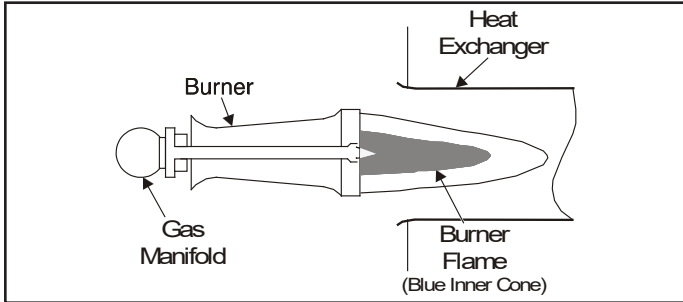

Figure 5. Typical Flame Appearance
2. Cycle the burners on and off to make sure the ignition system operates correctly. Ignition and extinction should be smooth. The inner cone of the burner flames should be blue, and flame appearance should be as shown in Figure 5.